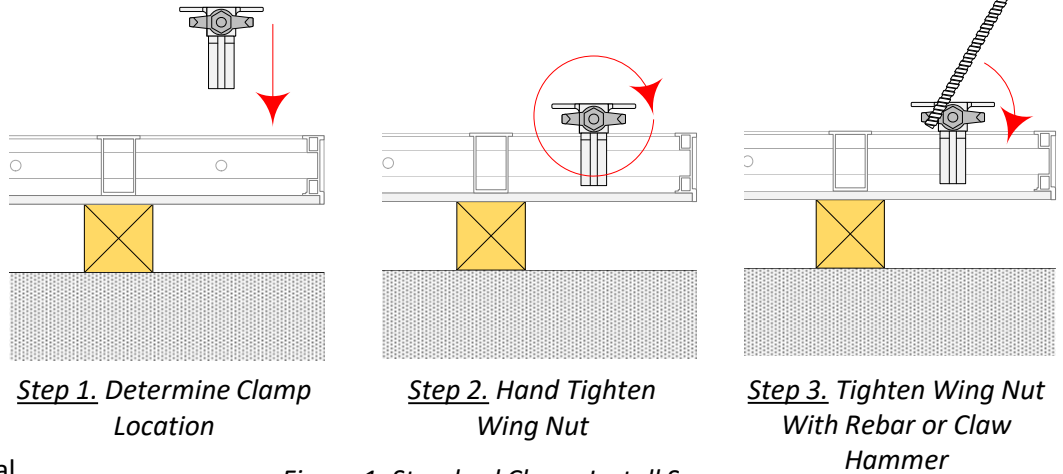

Figure 1. Standard Clamp Install Sequence
- Overtightening clamp could result in damage to panel or clamp. See Figure 1.)